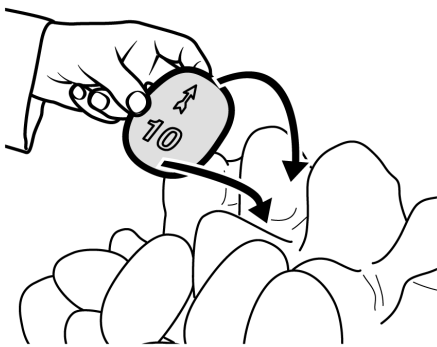

Figure 38. Third row "Pebble 10"
20. Hold pebble '10' upright with the arrow pointing to the top. Locate pebble '10' as shown in figure 38.